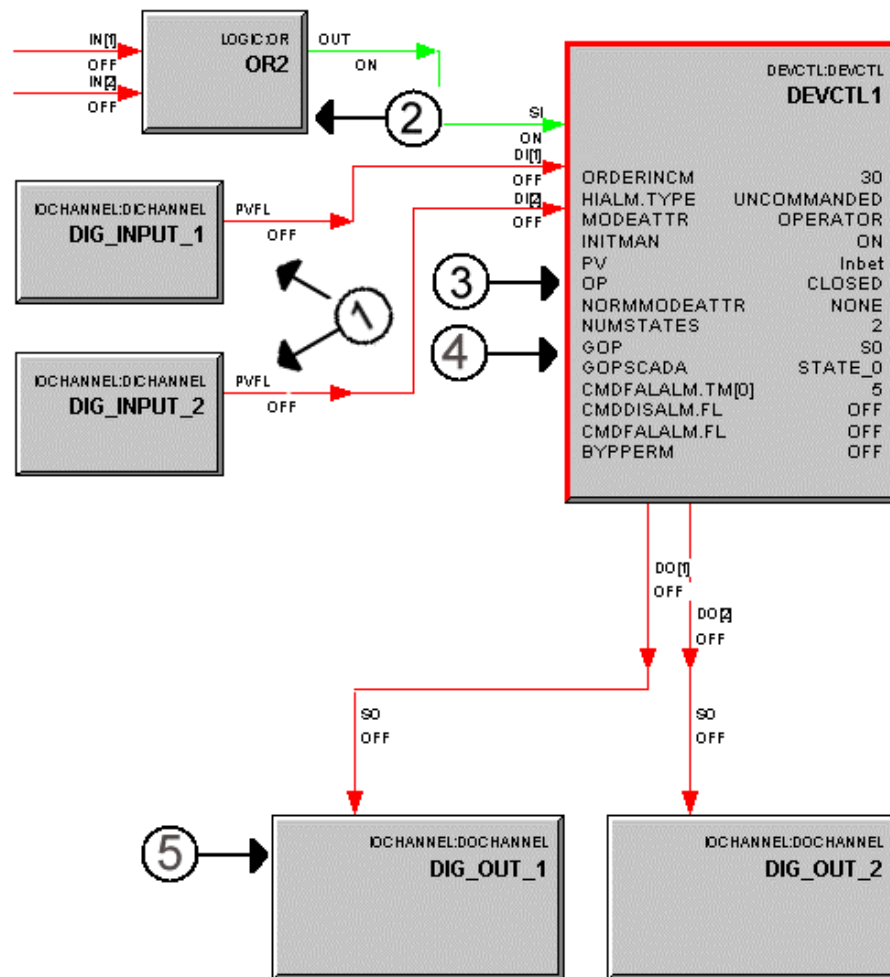

Figure 41 Example of CB configuration using a DEVCTL block to provide two status outputs.
- Status Output – Figure 41 and its companion callout description table show a sample configuration that uses a DEVCTL block to command two status outputs. The view in Figure 41 depicts a loaded configuration in Monitoring mode.
The following table includes descriptions of the callouts in Figure 41.